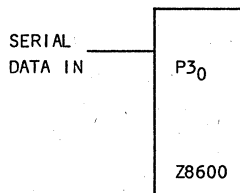

Fig. 2 - Z8600 Serial Input Connection
**METHOD** In the middle of the stop bit time, the Z8600 UART automatically posts a serial input interrupt request on  $IRQ_3$ . The serial input can also be tested by reading Port 3 bit 0 ( $P3_0$ ) as shown in Figure 2. Thus, within the interrupt service routine or polling loop, it is only necessary to test  $P3_0$  in order to identify a framing error. If  $P3_0$  is Low when  $IRQ_3$  goes High, a framing error con-